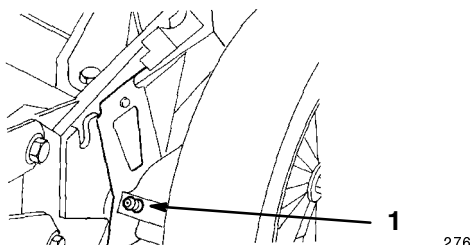

Figure 29
1. Wipe the grease fittings on the rear cutting height adjusters (Fig. 29) with a clean rag.